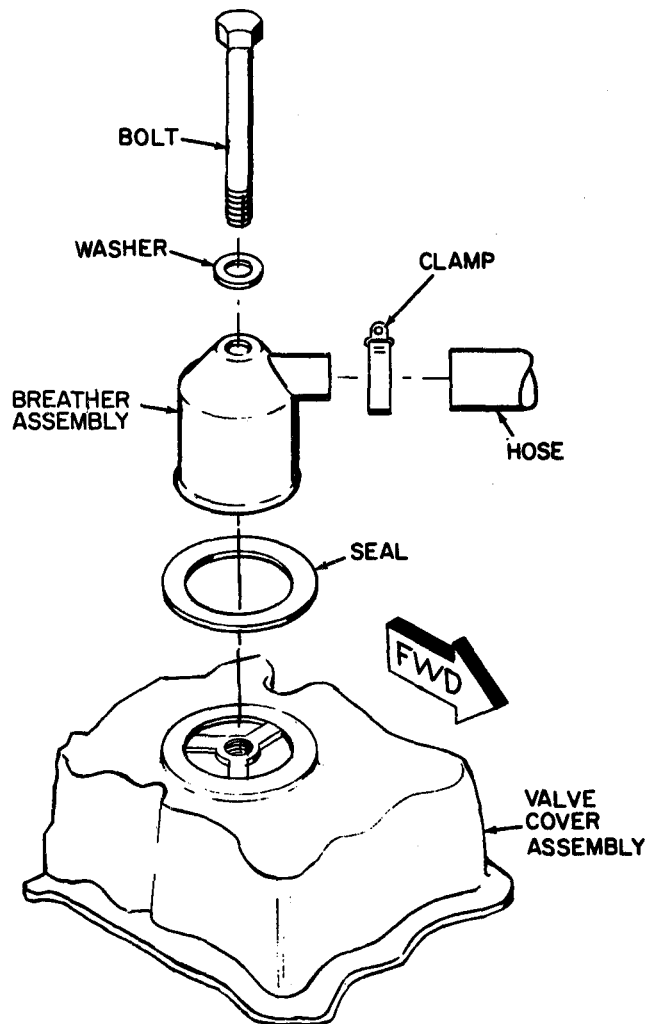

Figure 3-42. Breather assembly, removal and installation
b. REMOVAL. Remove breather assembly as illustrated in figure 3-42.
d. INSTALLATION. Install breather assembly as illustrated in figure 3-42.